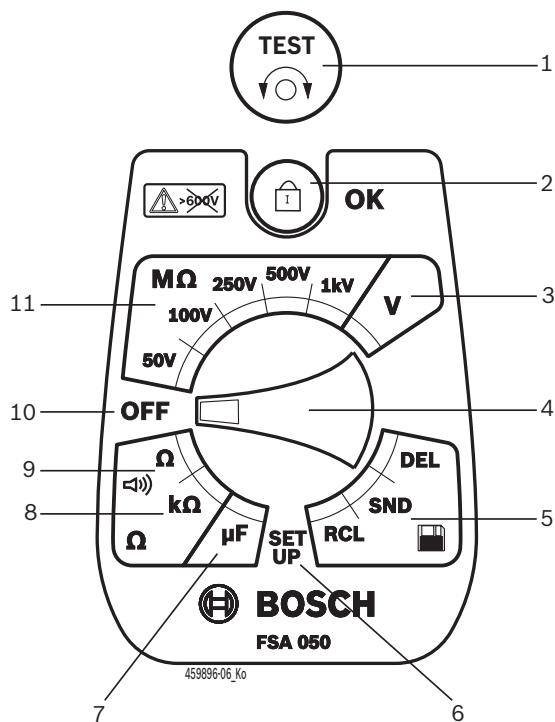

Fig. 2: Rotary switch/buttons
- Set the rotary switch to <SETUP> (Fig. 2, Pos. 6).
- Press <TEST> (Fig. 2, Pos. 1) for approx. two seconds.
- Press </OK> to store the desired value (Fig. 2, Pos. 2).